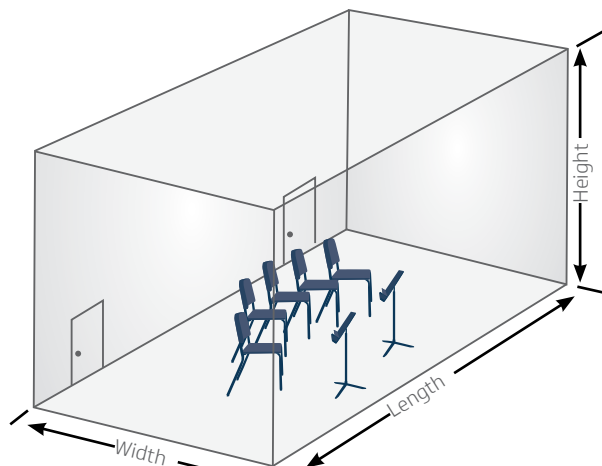

Figure 12
- Check your room's size, the crucial measurement is cubic volume — square footage multiplied by ceiling height (figure 12). Even if your room seems big, make sure it isn't all floor space — your ceilings should be at least 16' high. Compare with Wenger's rule-of-thumb guidelines (table 1), and make sure to factor in the size of your ensembles.